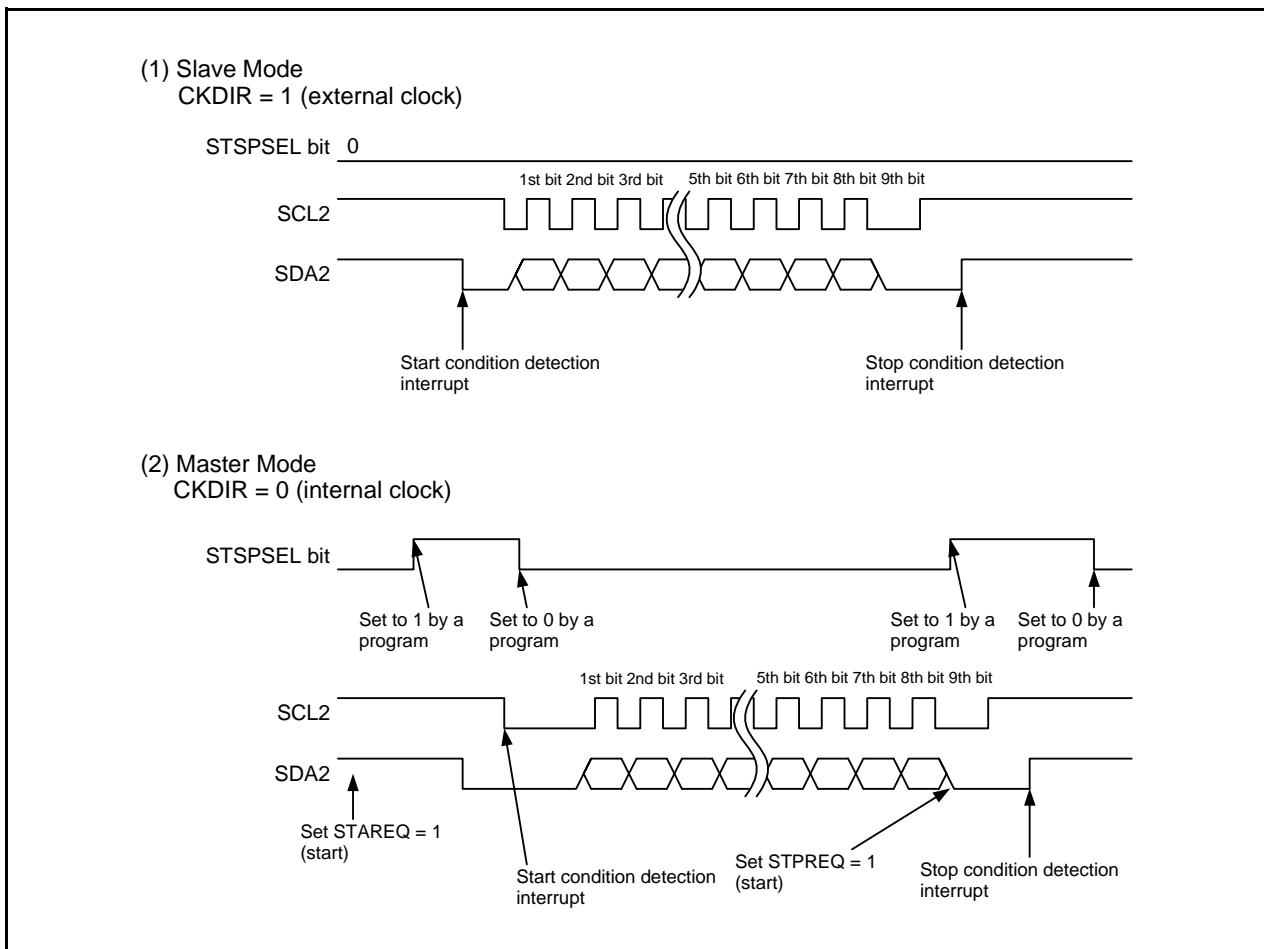

Figure 20.16 STSPSEL Bit Functions
4. Refer to **Figure 20.16 STSPSEL Bit Functions**.
Table 20.12 lists the STSPSEL Bit Functions and Figure 20.16 shows the STSPSEL Bit Functions.